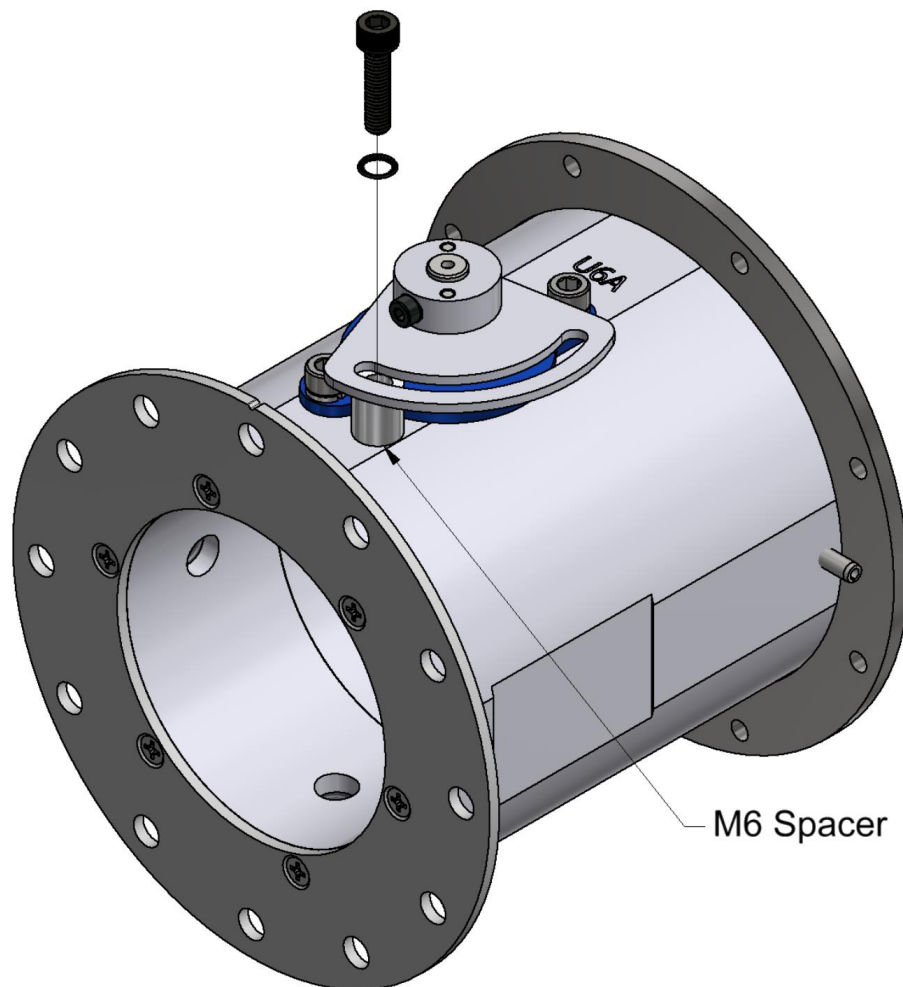

Figure 6: Completed Installation of AGA92.5 Manual Kit
5. Slide the M6 spacer between the PBA body and the slotted plate of the shaft adapter assembly so that the hole in the spacer lines up with the threaded hole in the PBA body as shown in Figure 6 below. Using a 5mm hex key, the M6 spring lock washer, and the M6 x 25mm socket cap screw, fasten the slotted plate against the M6 spacer in any desired position from 0-90°. To change the valve position, simply loosen the M6 socket cap screw, adjust the valve position by hand, and fasten the M6 socket cap screw against the M6 spacer.